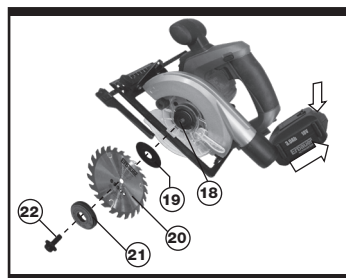

Fig 2
| 18. | SPINDLE (See Fig.2) |
| 19. | INNER FLANGE (See Fig.2) |
| 20. | SAW BLADE (See Fig.2) |
| 21. | OUTER FLANGE (See Fig.2) |
| 22. | BLADE BOLT (See Fig.2) |
4. REMOVE OR INSTALL BATTERY PACK (See Fig.2)